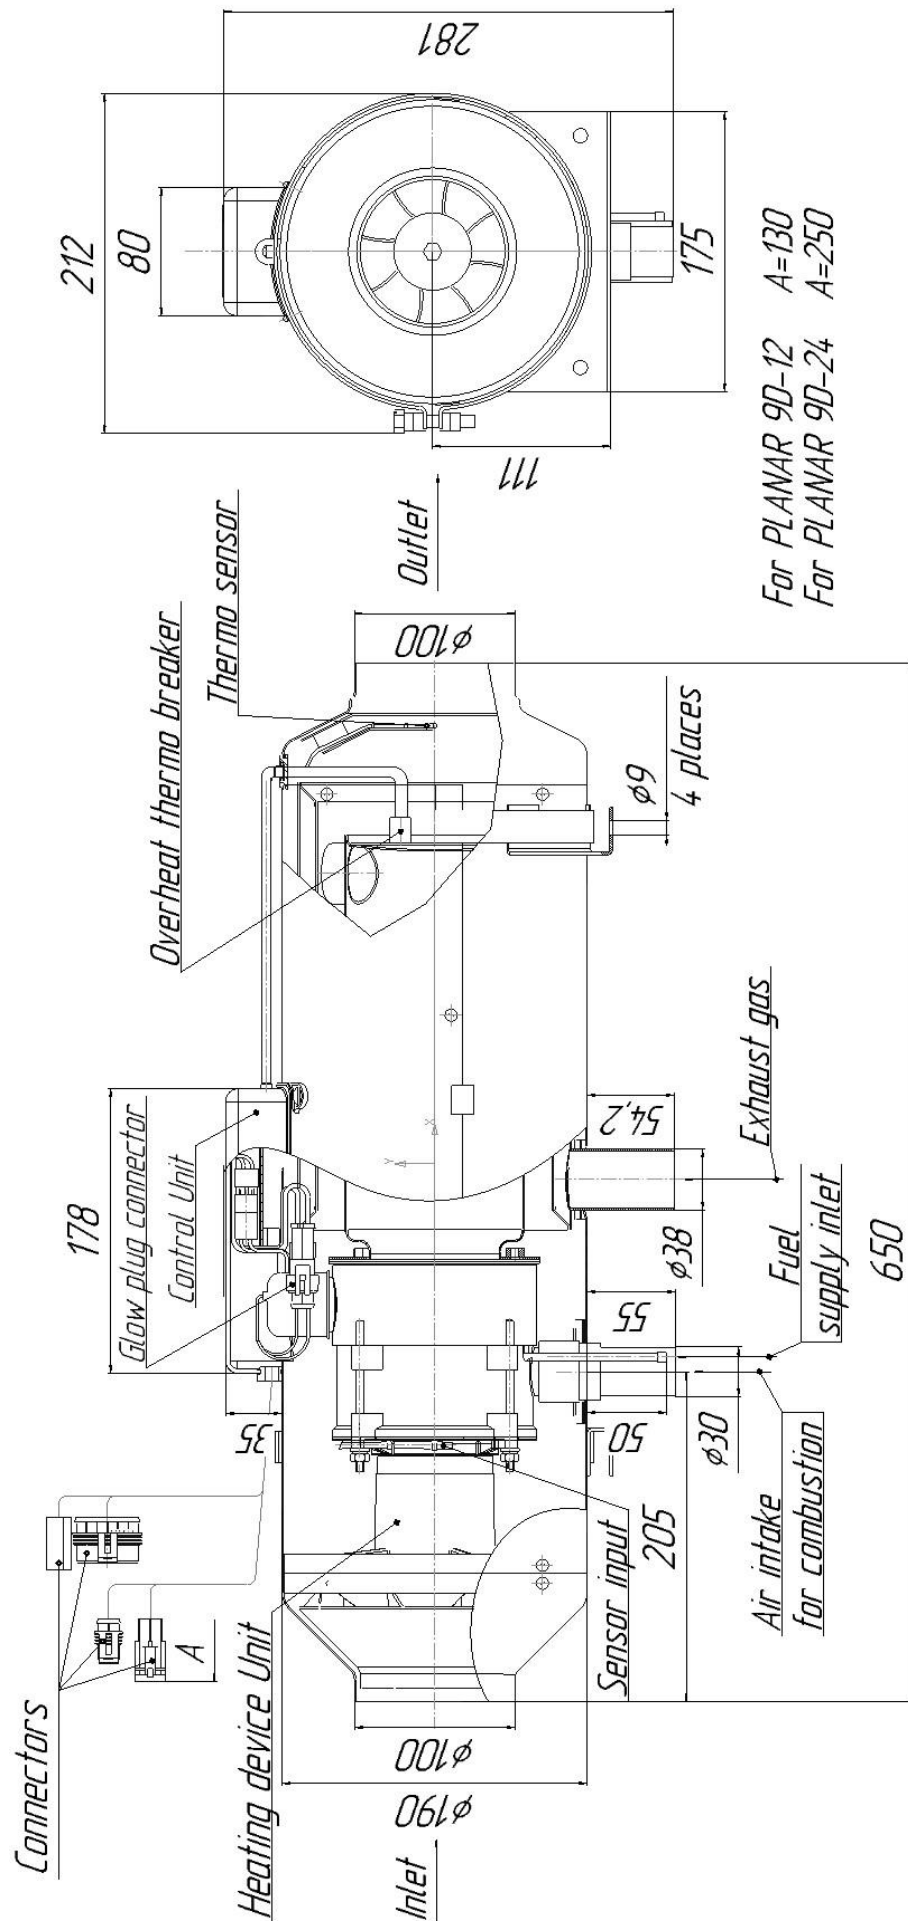

Figure 4.2 – Basic heater components
- heating device (see figure 4.2 for basic components thereof);